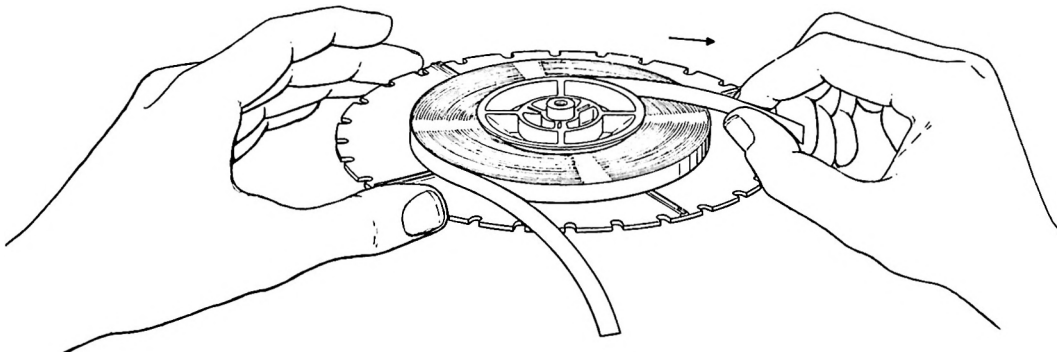

Figure 6. Preparing to Splice Tape (No. 2)
b. Remove about 9 inches of tape from the inside of the reel by pulling gently on the free end of the tape near the reel hub as in figure 6. Do this carefully to avoid spilling tape from the reel.